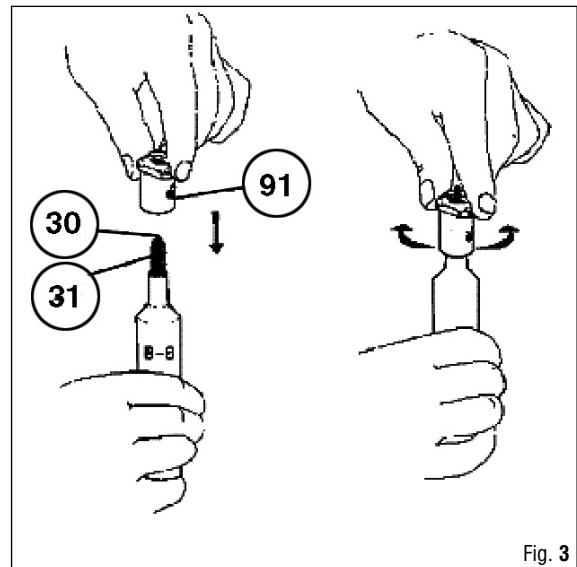

Fig. 3
3. Reassemble the poppet seat holder (92) on the 2nd stage poppet stem (30).
4. Reassemble the poppet seat (47) in the poppet seat holder (92). These components must be carefully checked using a jeweler's glass to look for any of the defects indicated below.
5. Place the 2nd stage poppet assembly (30+47+92) together with its spring (31) on the special tool (B-6).
6. Pressing gently, correctly position the 2nd stage valve and its spring into the demand lever connector (91) (Fig. 3).
ROTATE THE SECOND STAGE CASE SLIGHTLY TO THE RIGHT AND LEFT TO OBTAIN CORRECT POSITIONING OF THE 2ND STAGE POPPET STEM (Fig. 3).